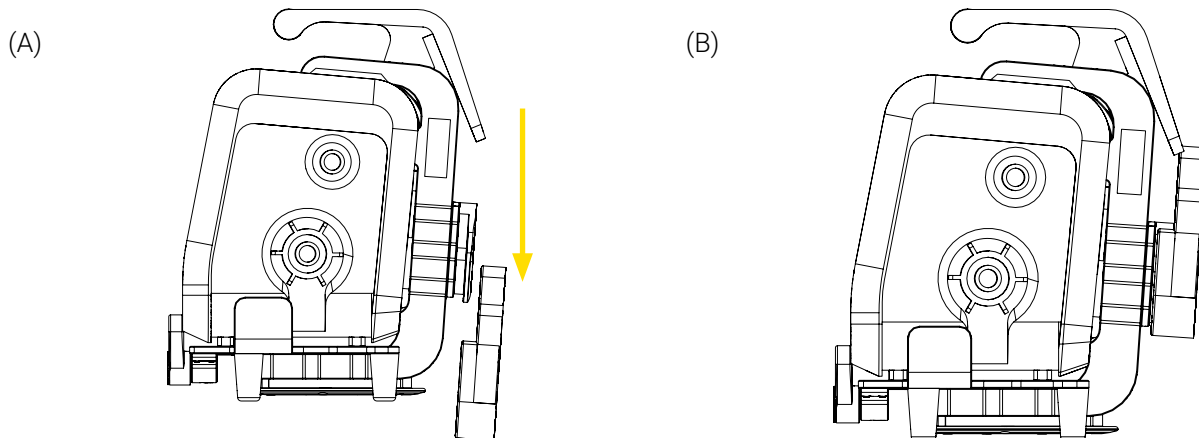

Figure 7: Installing the Bracket Pro Serie 60 - GR on the Micro Base
1. Align and insert the anti-rotation micro disc located at the back of the Bracket Pro Serie 60 - GR vertically in the Micro Base until it is locked (Figure 7).